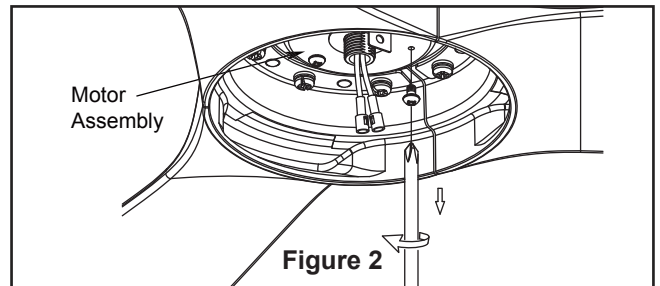

Figure 2
- Remove one of the three screws in the support bracket at the bottom of the motor assembly and retain the screw for later and slightly loosen the remaining two screws. (Figure 2)
2. Restore electrical power to the outlet box by turning the electricity on at the main fuse box. (Figure 2)